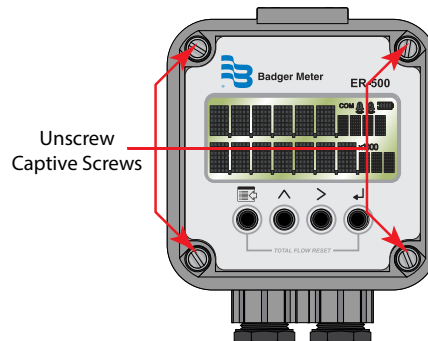

Figure 17: Opening the
- Unscrew the four captive screws on the front panel to gain access to the battery (see Figure 17).